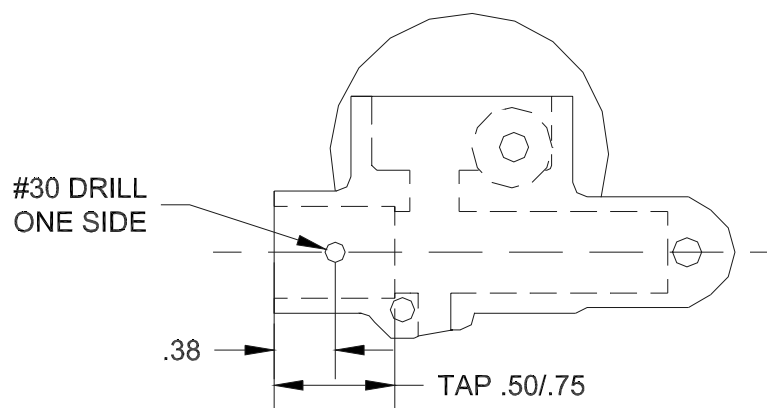

Figure B-283.1 - Trim Control
Actuator assemblies containing a #30 drilled hole in housing through the wall of the inner spring tube socket as shown in Figure B-283.1 are in compliance with this service bulletin and no further action is required. During inspection, soft jaw pliers may be used in lieu of finger pressure as long as care is taken not to cause permanent distortion of the inner tube. If some, or all, of the resin fillet has a cream or light pink color (doesn't transmit the black color of the housing through the resin), this is an indication of bond separation. To confirm separation, a drop of alcohol on the edge of the fillet and housing will indicate a color change if resin bond has separated.
Actuator assemblies containing a #30 drilled hole in housing through the wall of the inner spring tube socket as shown in Figure B-283.1 are in compliance with this Service Bulletin and no further action is required.
- e. Drill a No. 30 hole in the housing through the socket wall as shown in Figure B-283.1; deburr hole paying particular attention to burrs on the inside diameter of the housing tube socket.
- f. Cut spiral grooves inside the housing tube socket to depth of 0.50 to 0.75 inch using a 5/8"-11 standard tap as shown in Figure B-283.1 and remove all loose debris. Clean with MEK and dry with clean cloth.